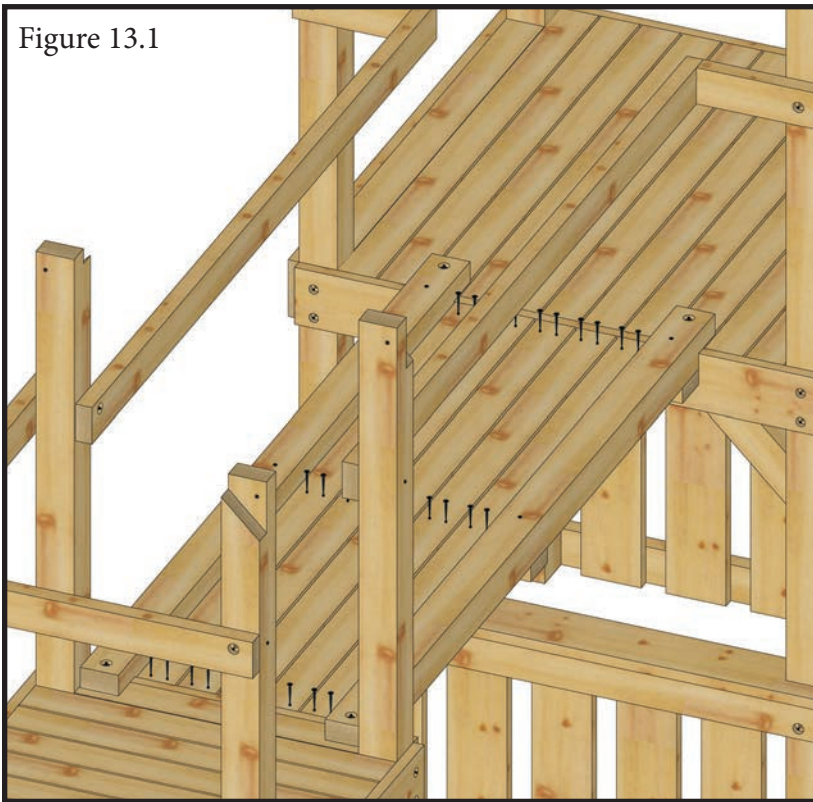

Figure 13.1
13.1 Pre-drill and fasten Bridge Deck Boards down with 2-1/2" Screws as shown in Figure 13.1.